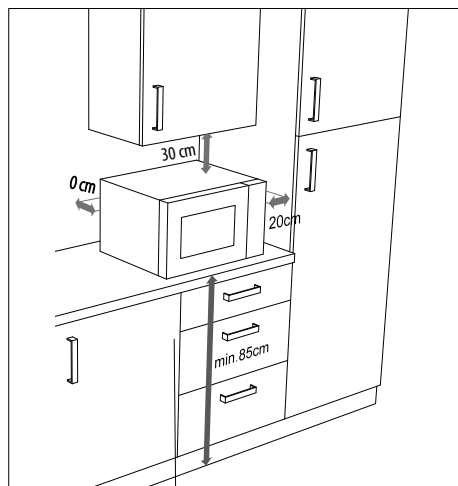

Fig. 4 – Appliance clearance
- ▶ The distances shown must be maintained to ensure adequate ventilation (see **Fig. 4**). The spacer at the back of the appliance must touch the wall. It ensures that the correct clearance is maintained when positioning the microwave.